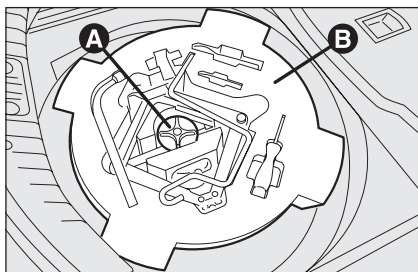

fig. 5
- ☐ for versions fitted with space-saver spare wheel, loosen fastener **A**-fig. 5, take the tool container **B**, and bring it near the wheel to be changed, then take out the space-saver spare wheel;